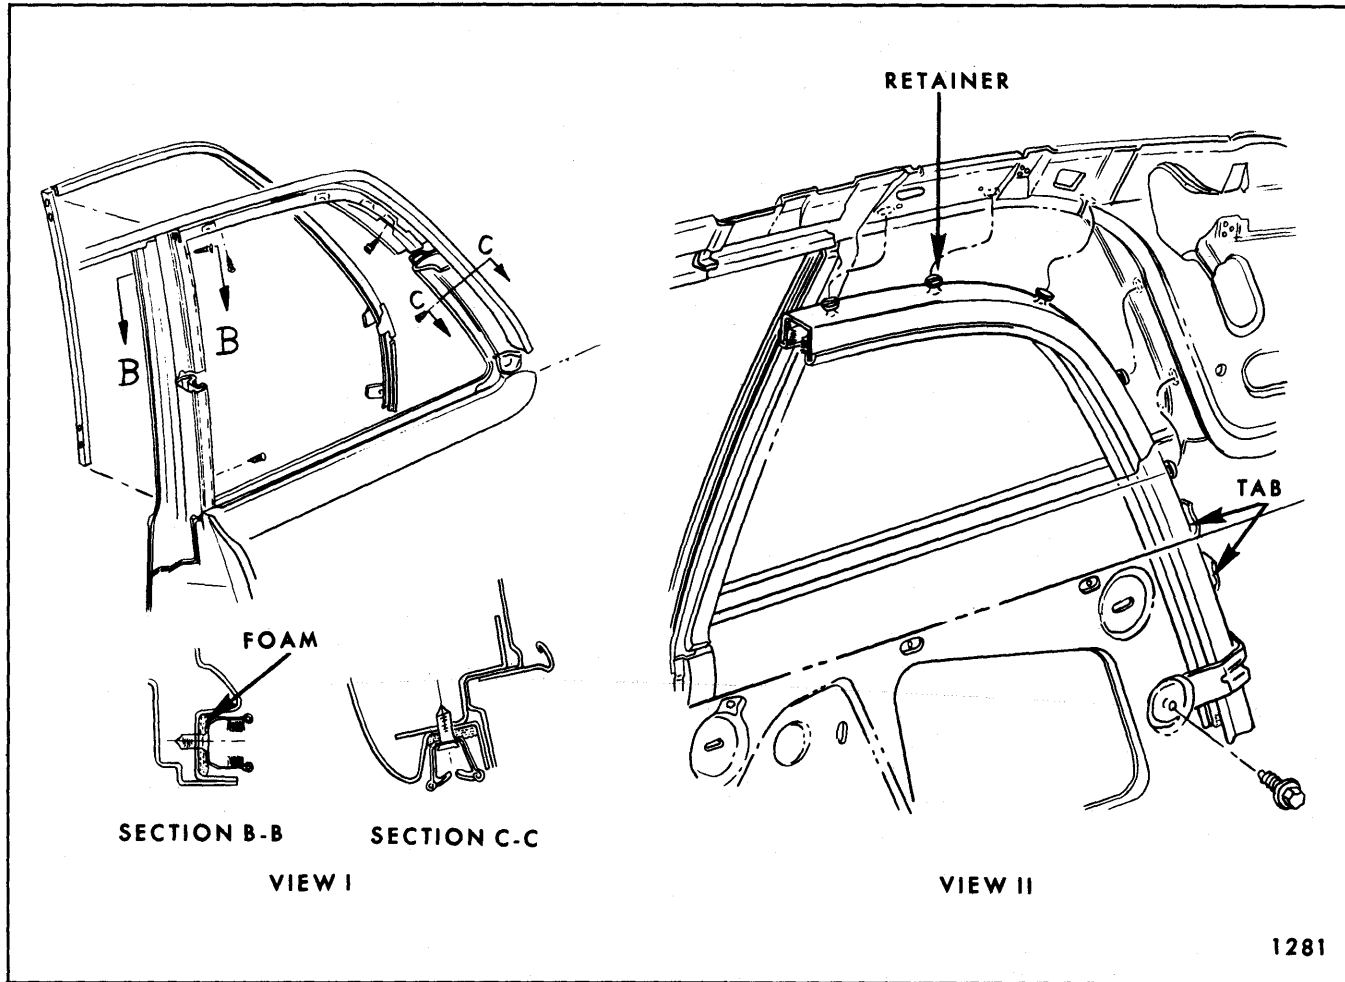

Fig. 7-8—Rear Quarter Window Glass Run Channels - Typical of all Closed Styles
2. Remove run channel to inner panel attaching bolt (Fig. 7-8).